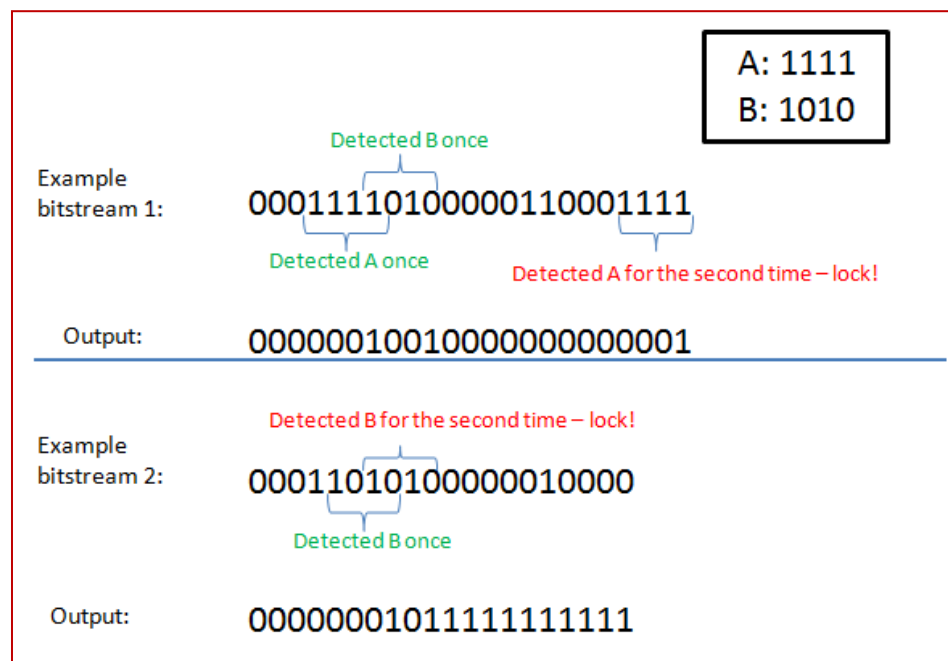

Figure-1: Some examples on the desired circuit behavior. Note that the output may be delayed one cycle depending on the machine type.
7. If either A or B is detected for the second time (not necessarily in a row), **the circuit should go to a lock state, with its output set. The only way to get out of this lock state must be by resetting.** Some example cases are given in Figure-1, at the second page.